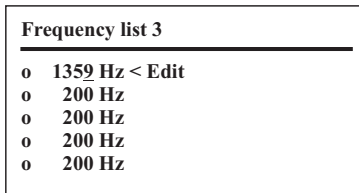

Fig. 8: **Frequency list 3** view - Individual frequencies (here: top placeholder occupied by individual frequency 1359 Hz)
5. Press the ON/OFF key. The placeholder is marked with Edit (fig. 8).